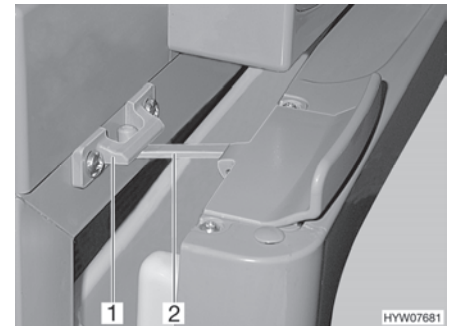

Fig. 108 Refrigerator door in ventilation position (Thetford)
- Open the lock (Fig. 108,2) and snap it into the locking catch (Fig. 108,1). The refrigerator door will then stay slightly open.